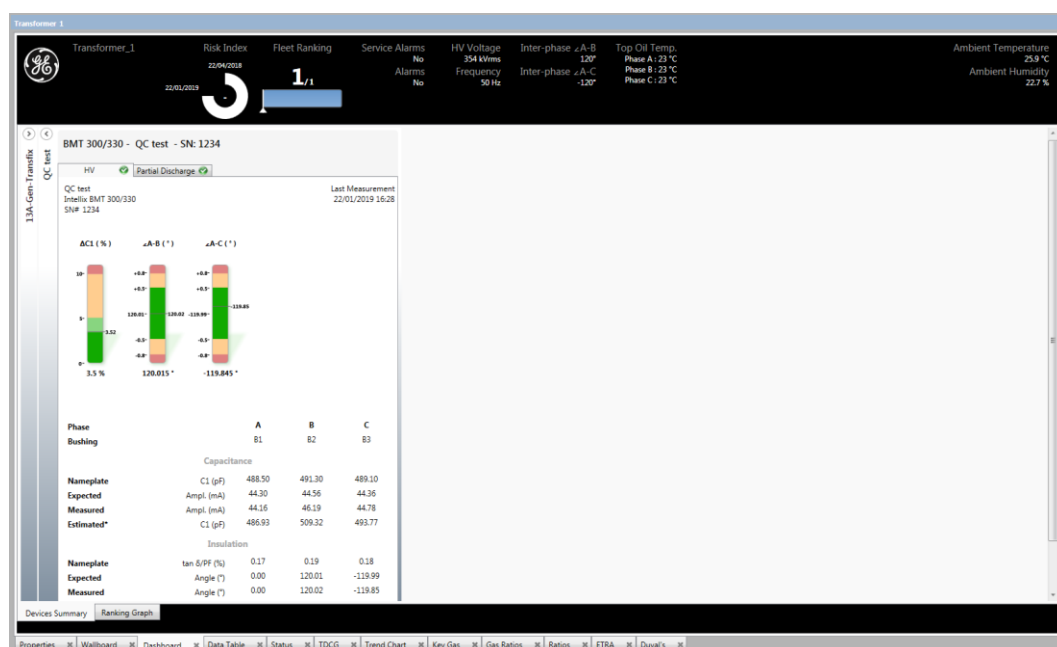

Figure 3-22: Transformer Dashboard > Devices Summary – BMT 330
The device summary for an Intellix BMT device is shown in Figure 3-22. Depending on the inputs, there are multiple tabs, Primary Input (HV) and Partial Discharge (an additional tab is shown if the Secondary Input is in use e.g. Low Voltage).